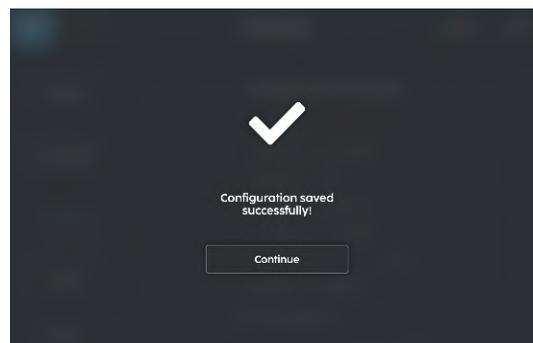

FIGURE 7-9
- Make the necessary configuration changes and "Save" the configuration (**Fig. 7-9**).